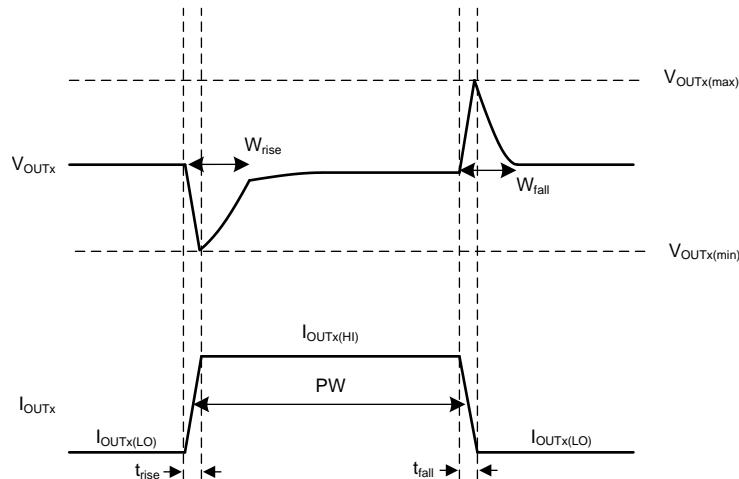

图 51. Simplified Load Transient Waveform
The transient response peaks ($V_{OUTx(max)}$ and $V_{OUTx(min)}$) are improved by using more output capacitance; however, doing so slows down the recovery time (W_{rise} and W_{fall}). 图 51 shows these parameters during a load transient, with a given pulse duration (PW) and current levels ($I_{OUTx(HI)}$ and $I_{OUTx(LO)}$).